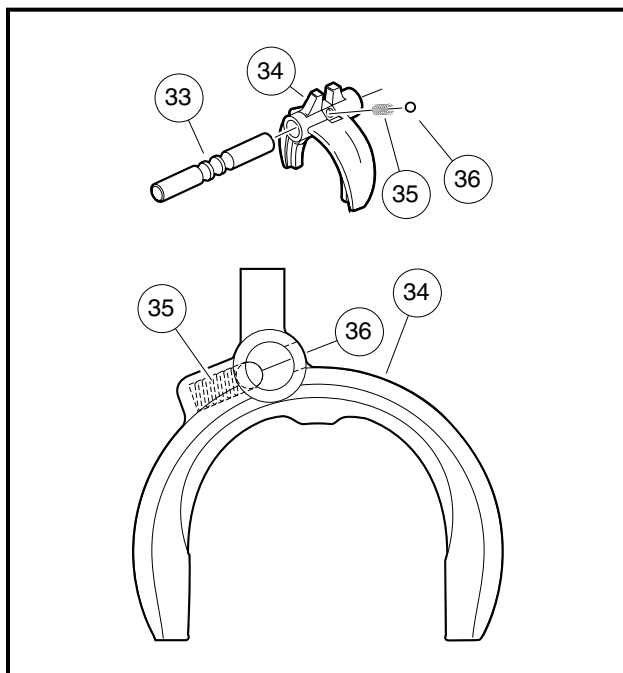

Figure 7-33 Align Spring and Ball and Insert
1. Install the spring (35) and ball (36) into the shifter fork (34) as shown (**Figure 7-33, Page 7-19**).